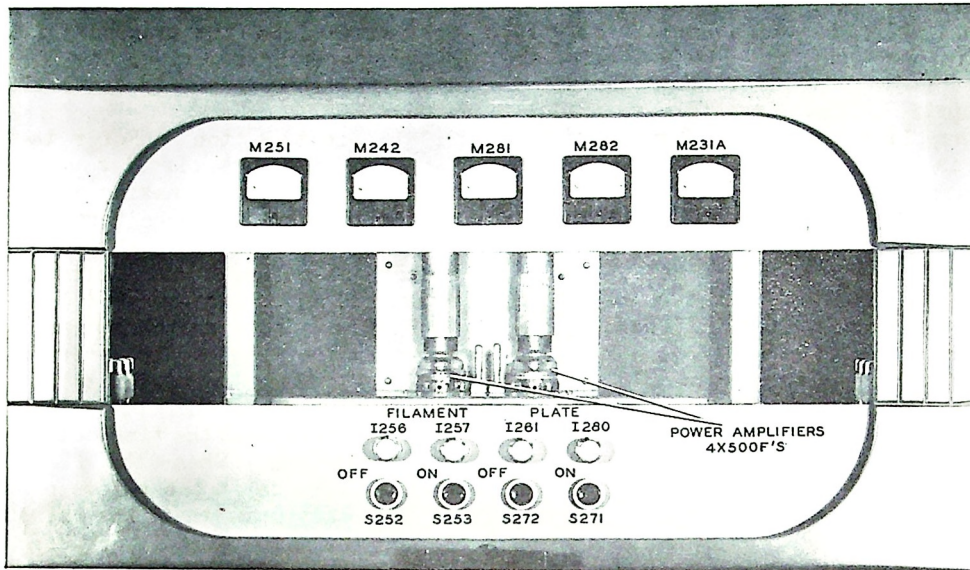

Figure 2-7 Upper Front Door
2.6.3. FILAMENT and PLATE Push Buttons. - The four pilot lights and four push buttons on the top door may be used to control and monitor the transmitter. Refer to figure 2-7. The green pilot light on the left side of the panel is across the load side of the FILAMENT circuit breaker (S251) and will light when S251 is in the ON position.